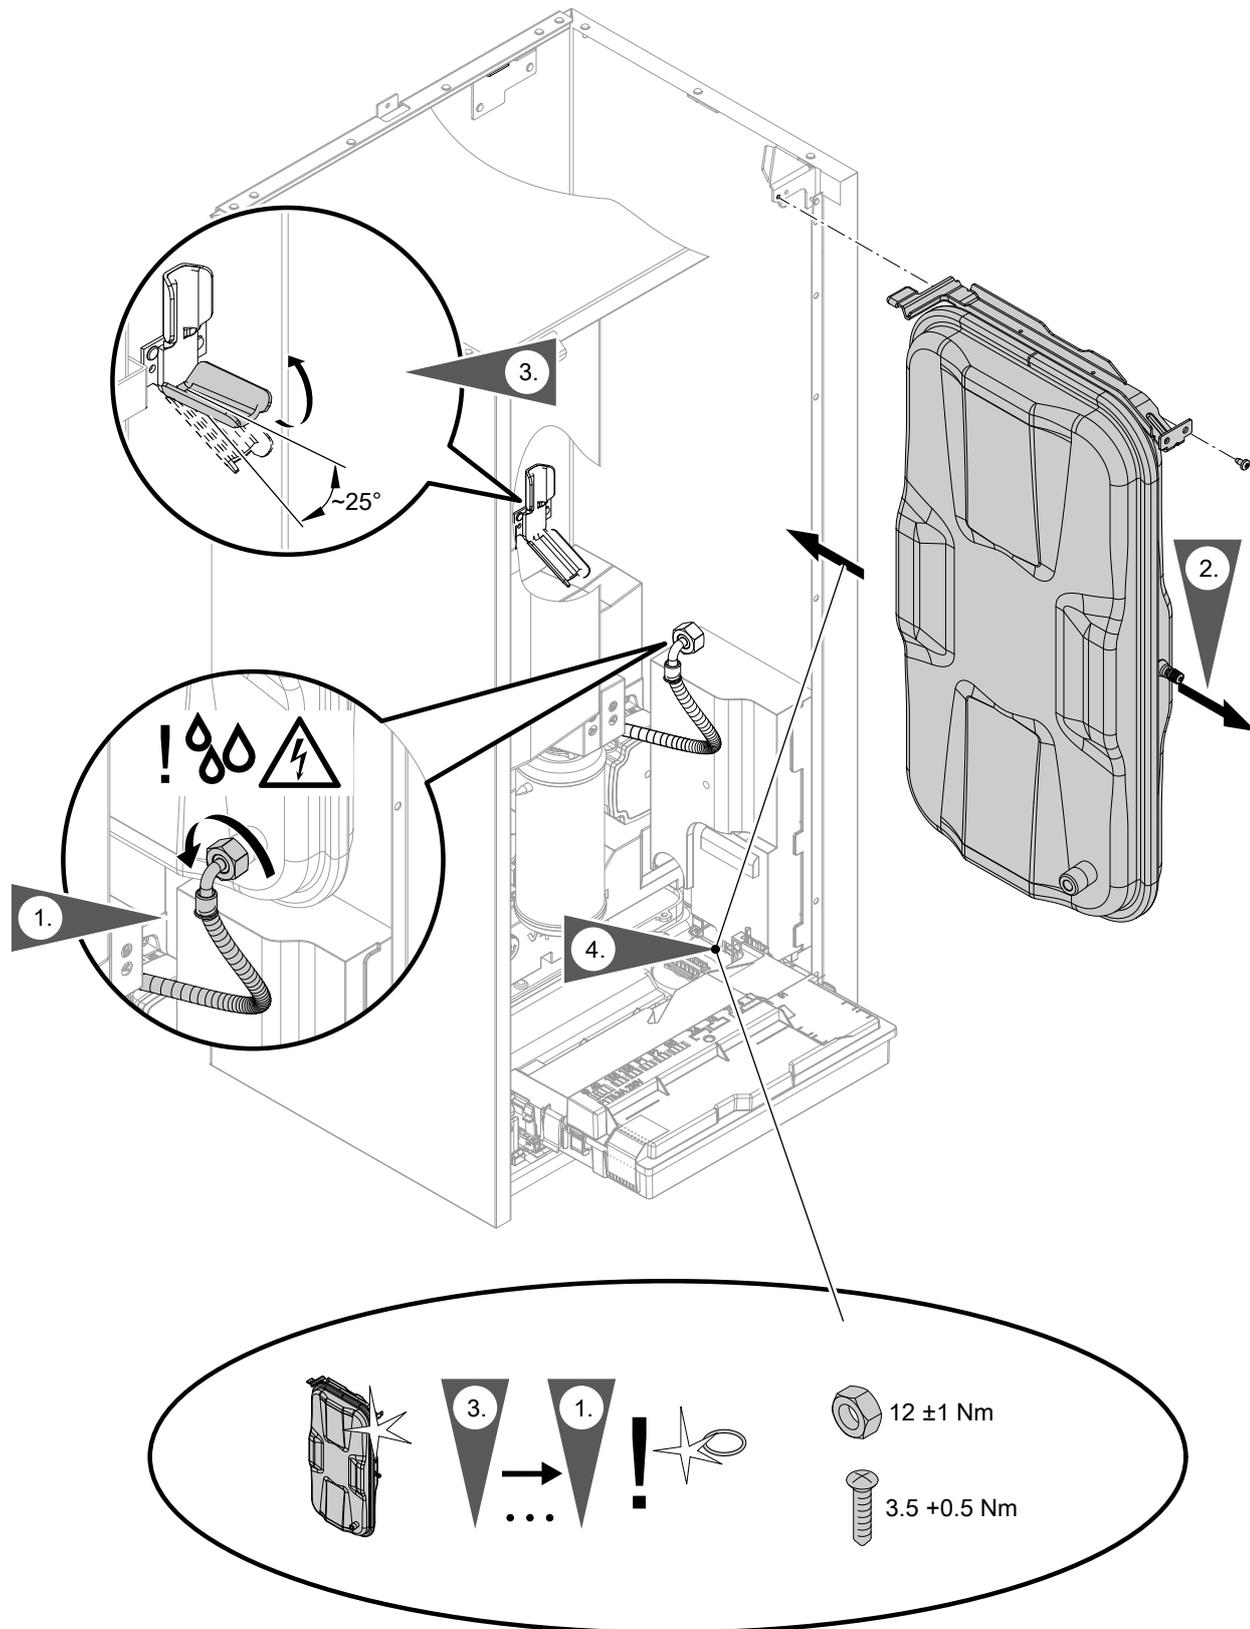

Fig. 76
- Expansion vessel: See Fig. 76.